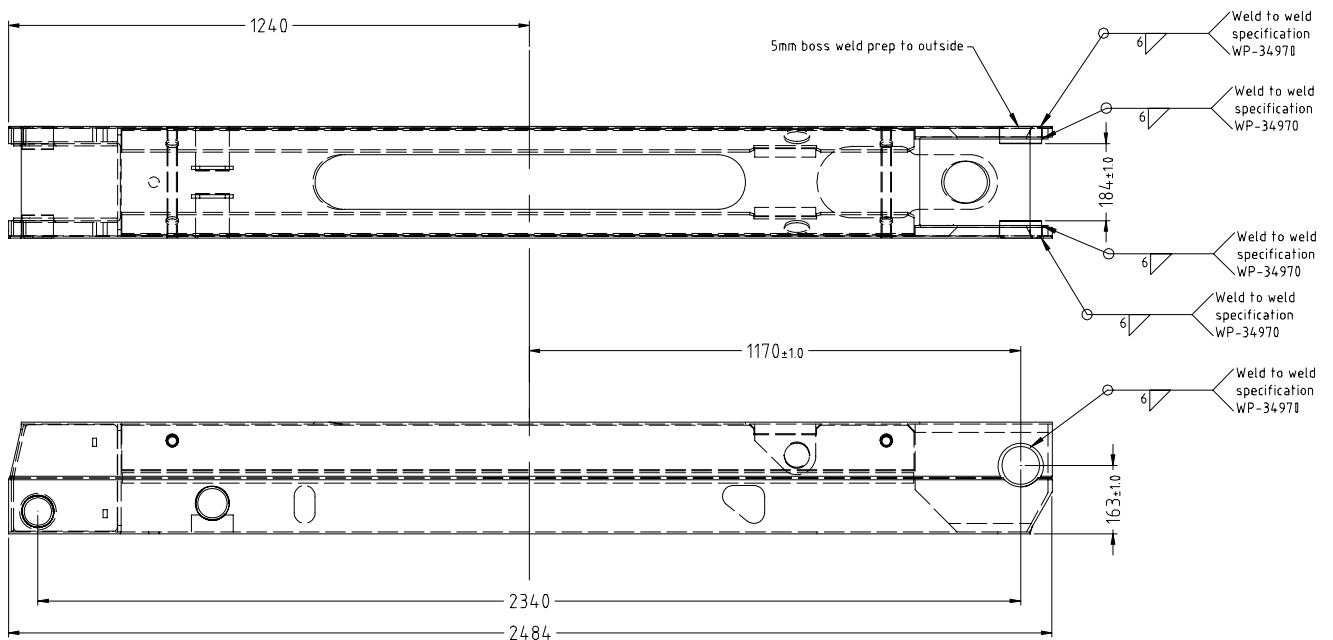

Figure 8: Requirements for welding in new bosses
4. Position the bosses to the stated dimensions in figure 8. Weld in the bosses to figure 8 and weld specifications WP-34970.